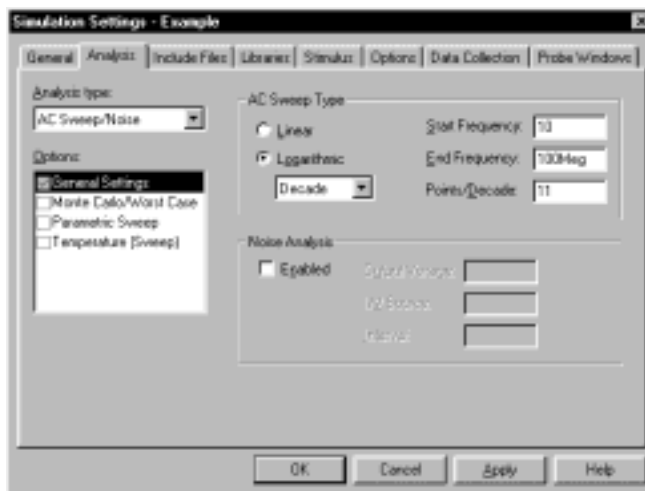

Figure 18 AC sweep and noise analysis simulation settings.
- 4 From the Analysis type list, select AC Sweep/Noise and enter the settings shown in Figure 18.